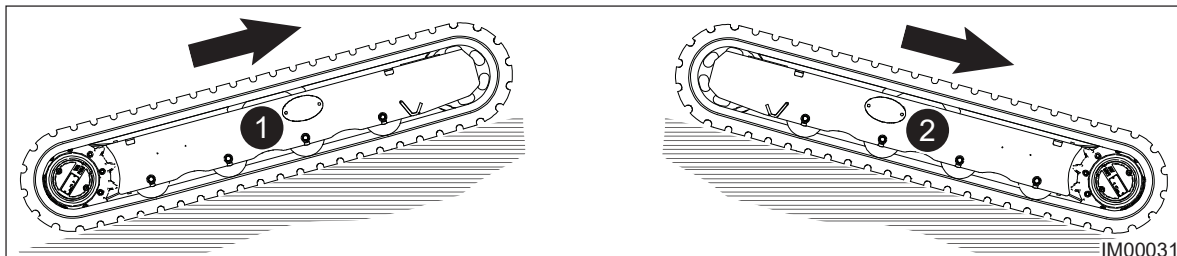

Fig: 6.1 - Tracking Gradient
- When traveling up a gradient (Item 1, Fig: 6.1), the tracks should be driven idlers first (i.e. drive sprocket to the rear).
- When traveling down a gradient (Item 2, Fig: 6.1), the tracks should be driven sprocket first.
(3) Crawler Track Working Conditions